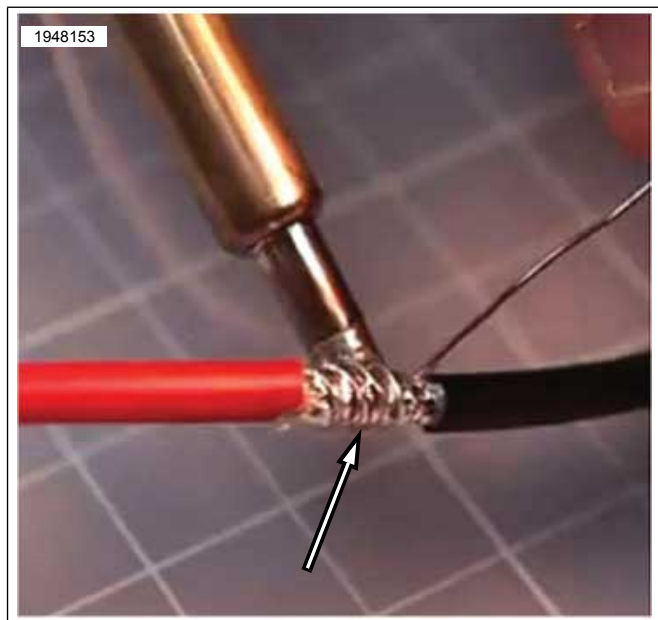

Figure 20. Add and Melt Solder with Soldering Iron
- g. See Figure 20. Using a high temp soldering iron, additional solder should be applied to complete coverage.